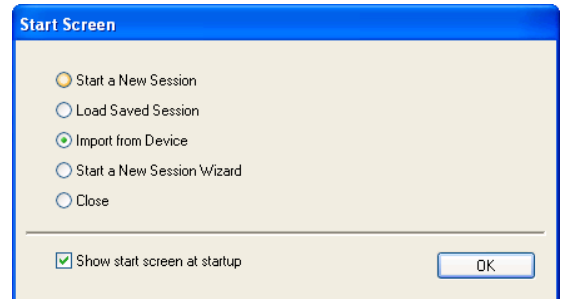

Figure 53: Select Import from Device from the Start
In effect, the test set is “taken apart” by each test cycle and reassembled in sequence. The Positive cycles are compared to the Negative cycles as shown in Figure 53. For example, the total decay time of all Positive cycles was slightly more than 4.8 seconds, while the total of all Negative cycles is approximately 5.7 seconds.
- From Device on the Start Screen as shown in Figure 53.